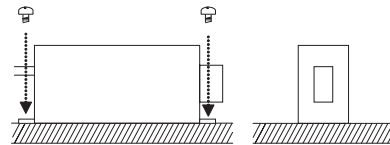

Fig.3.9 Installation Method
* Derating curve changes in the case of attachment of Fig.3.9. Please contact us for details.